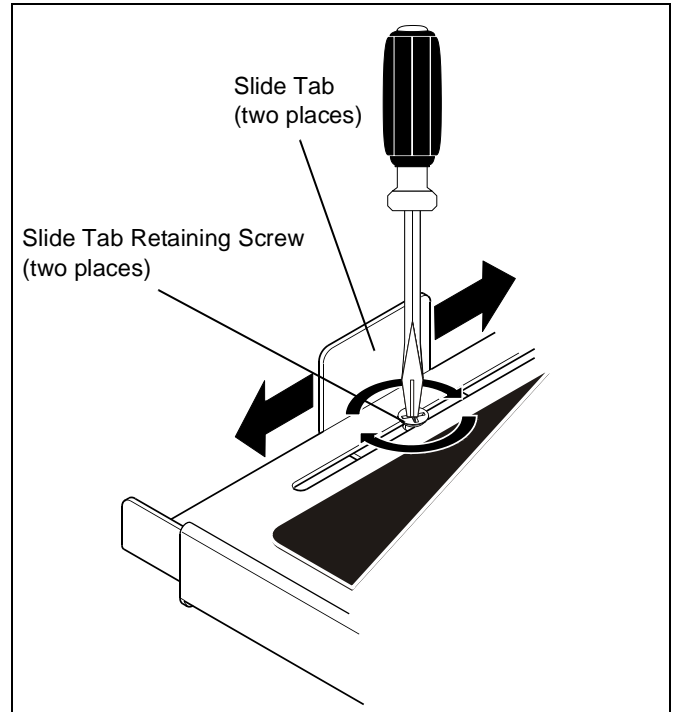

Figure 6
6. Loosen two slide tab retaining screws. (See Figure 6)
7. Position slide tabs so they are not blocking any ports on laptop. (See Figure 6)
8. Tighten two slide tabs. (See Figure 6)